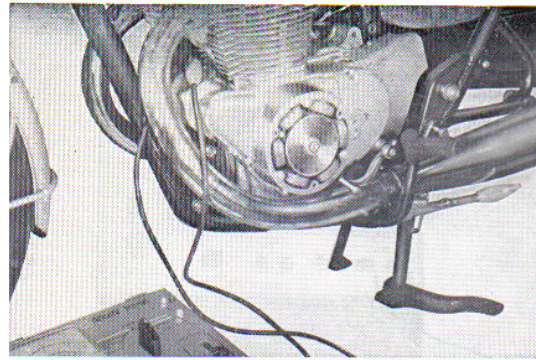

Fig. 5.102 DC current measuring
- (1) Connect the wire lead for current measurement to the tester DC current terminal.
- (2) Separate the positive (+) side of the motorcycle battery from the wire harness B, and connect the battery and tester black lead wire. Connect the separated wire harness B (selenium, combination switch side) to the red tester lead wire. (Fig. 5.102)